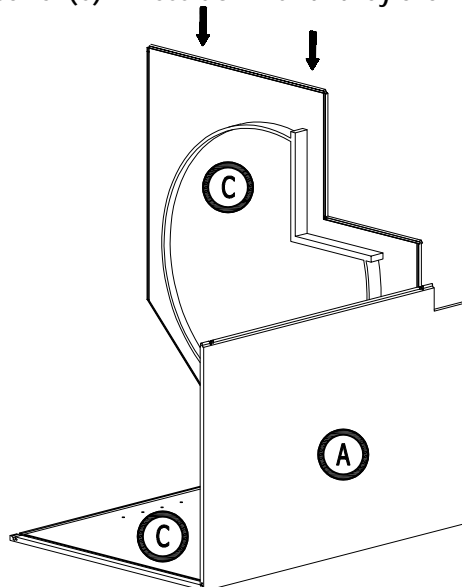

Figure 3
3. Installing the bottom panel : Insert the bottom panel with susan tray (F) into grooves of the side panel (a) & back panel (C) . Press down until they click into place. (Figure 3)